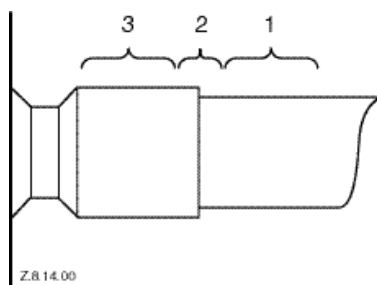

Figure 18. Suction tube brazing
Copeland Scroll compressors have copper plated steel suction and discharge tubes. These tubes are far more robust and less prone to leaks than copper tubes used on other compressors. Due to the different thermal properties of steel and copper, brazing procedures may have to be changed from those commonly used. For brazing of the tubes see figure 18 and the following procedures. Since the discharge stub contains a check valve, care must be taken not to overheat it as well as to prevent brazing material from flowing into it.
- Recommended brazing-materials: Silfos with minimum 5% silver or silver braze used on other compressors. Due to the different thermal properties of steel and copper, brazing procedures may have to be changed from those commonly used. For brazing of the tubes see figure 18 and the following procedures. Since the discharge stub contains a check valve, care must be taken not to overheat it as well as to prevent brazing material to flow into it.